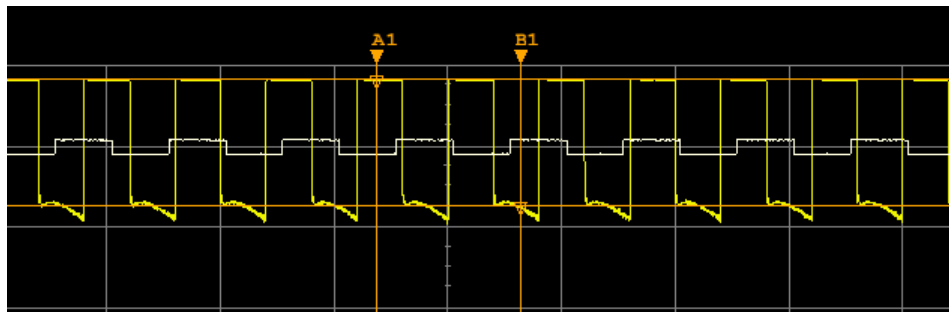

Figure 2-52 Resultant trace waveform of the math operation
- 5 An example of a resultant trace waveform is displayed as shown in Figure 2-52.